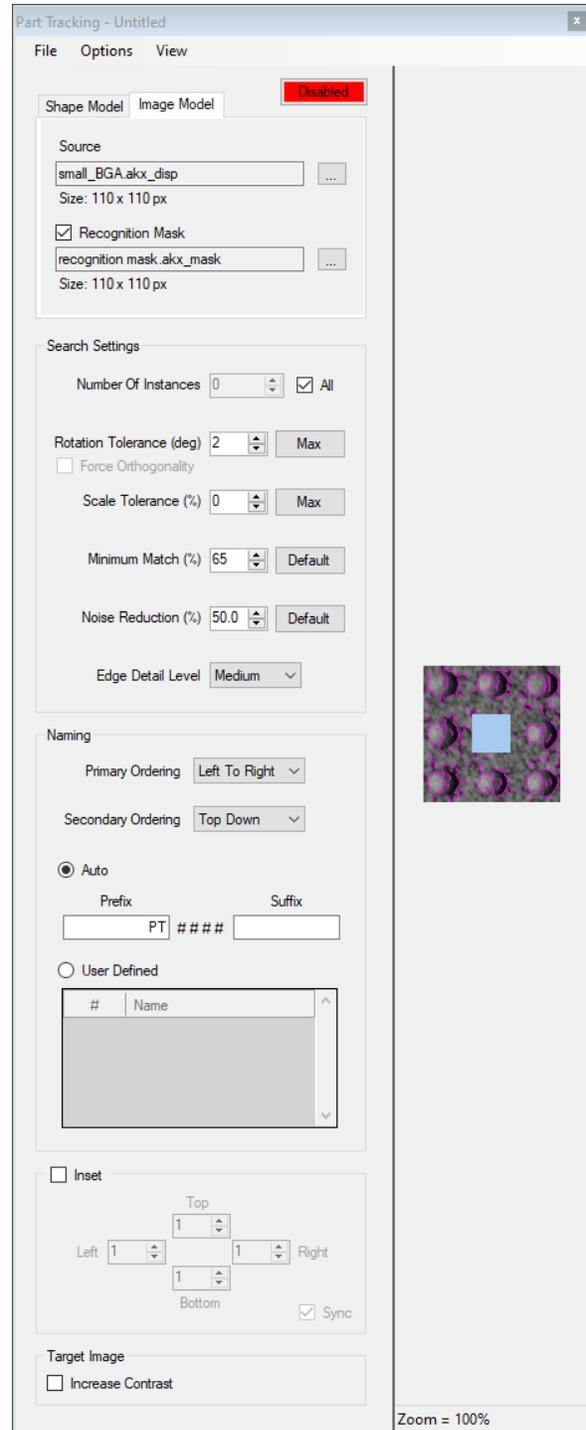

Figure 2.44 Part Tracking - Image Model
- **Image Model** – Allows an image to be loaded as the model to be found (**Figure 2.44**). Input options are phase or displacement images, as well as *.bmp or *.png.